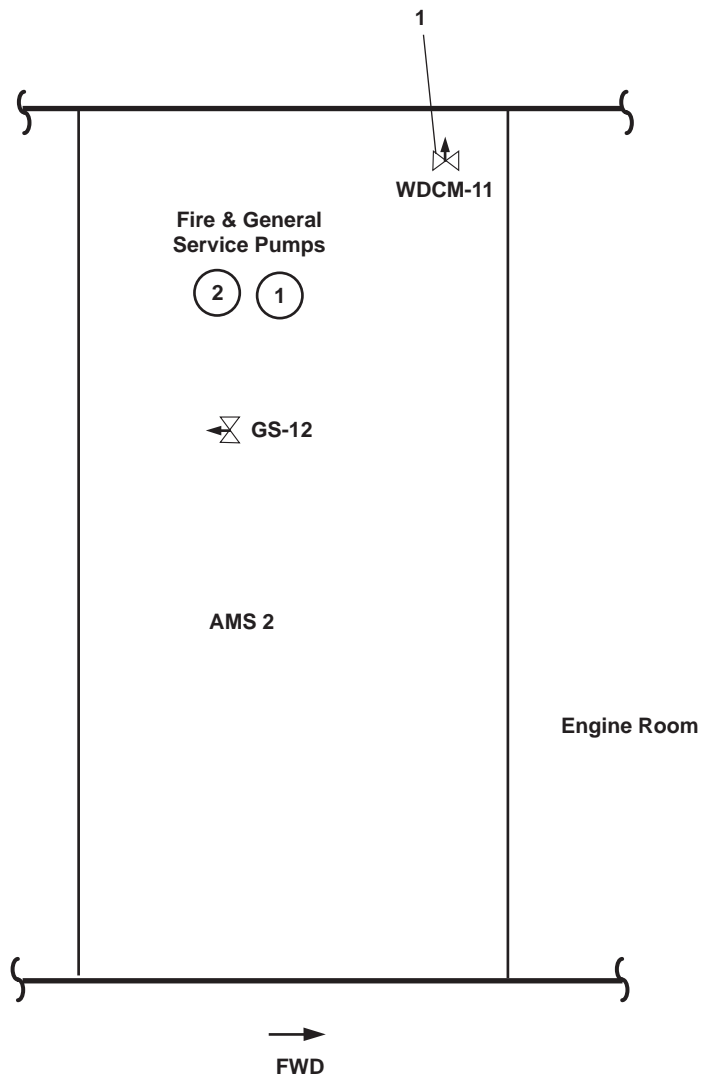

Figure 7. General Service Valves
To shut down the WDCM system, CLOSE valve WDCM-11, WDCM SPLY (figure 7, item 1).